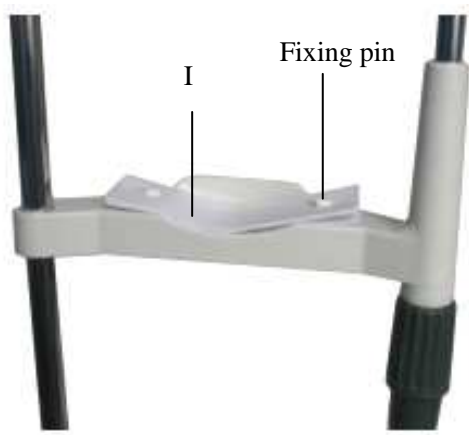

Fig.11
7) Assembling the chin-rest paper (I)
- Insert the fixing pins into the hole again (Fig.11).